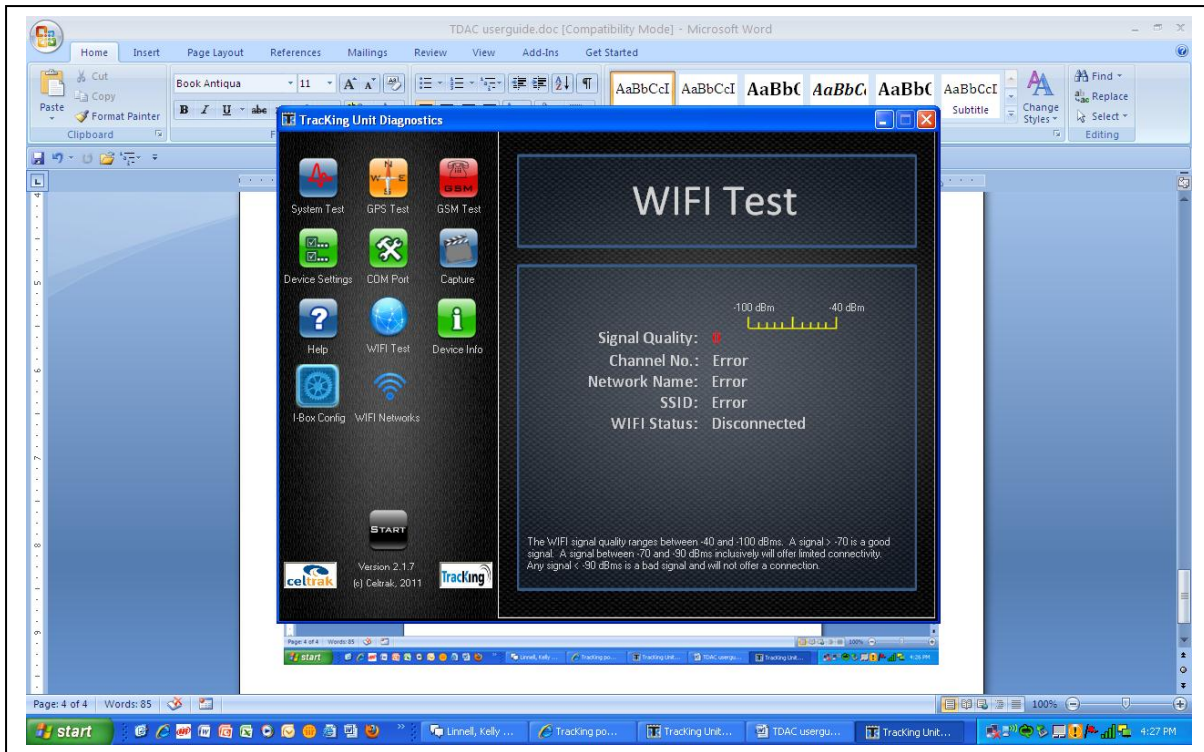

Figure 7
m. Test the Wi-Fi connection to an available Wi-Fi connection/profile, by clicking on Wi-Fi test icon. Wait for 2-5 minute to display result. See Figure 7.